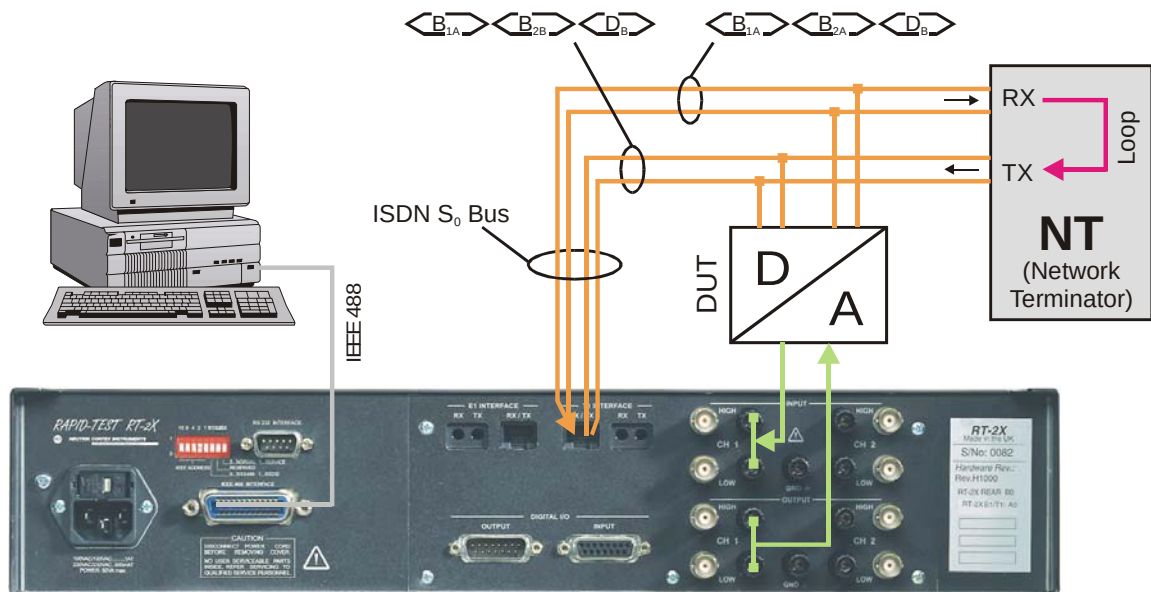

Fig 21 ISDN Setup
RT-2X supports half channel measurements as shown in **Fig 21**. This means that the multitone burst can be sent out e.g. on the ISDN S₀ bus, converted by the DUT into an analog signal, and analyzed by **RT-2X** (or vice versa).
1. Connect **RT-2X** to a specially programmed NT that supports a loopback of the S₀ bus (**Fig 21**). In the NT, the RX of the B-channel has to be looped to the TX of either B-channel.